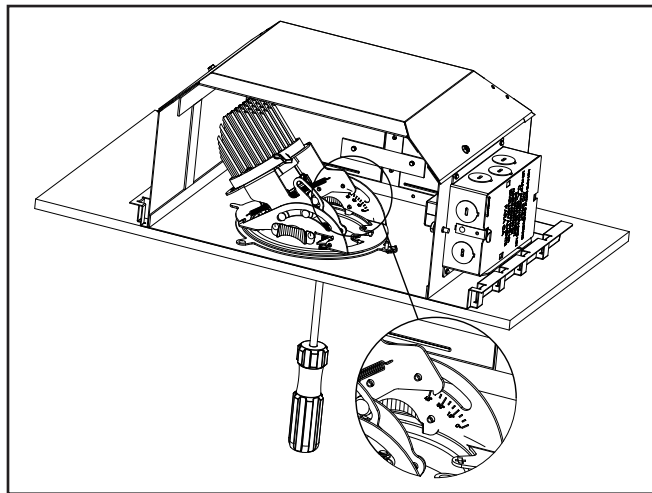

Figure 8
- a. For wall wash trims, the optimal conditions is 20-degrees tilt angle and 40-degree optic (Figure 8).